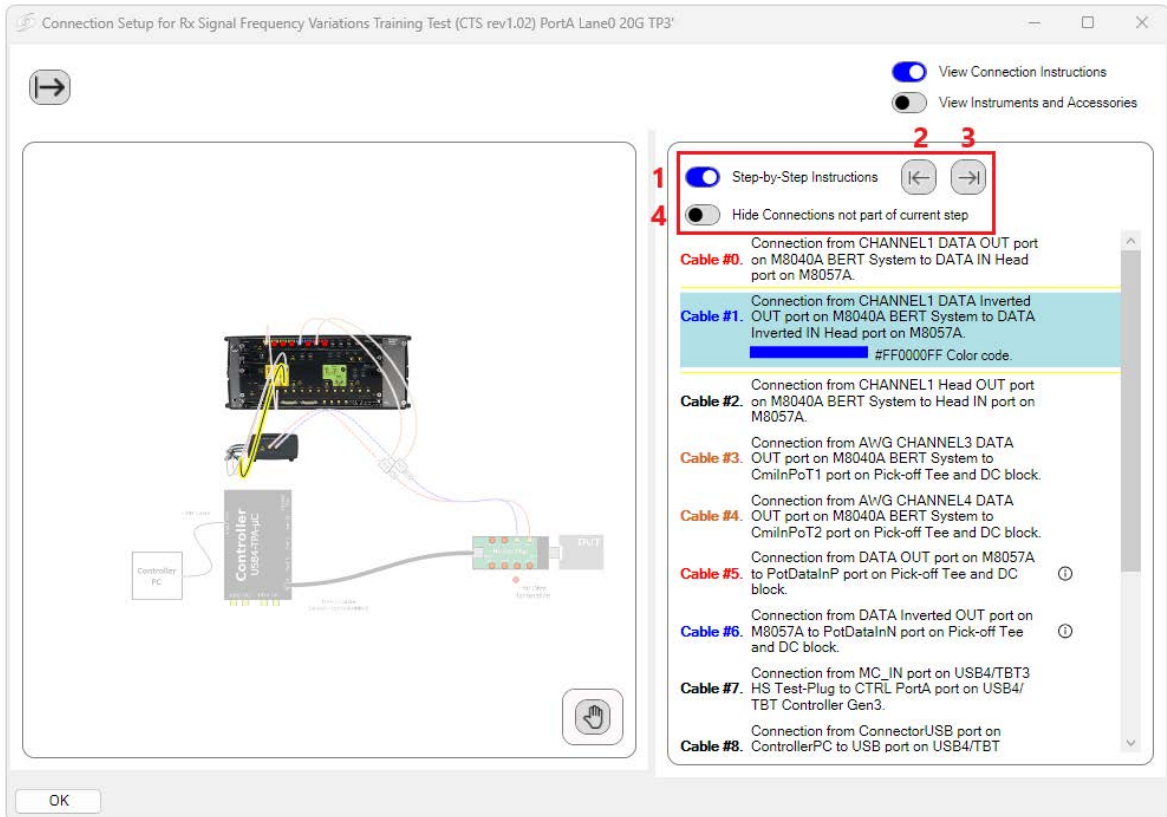

Figure 27 Connection diagram dialog – with Connection Instructions pane (example for USB4)
- 2 **Connection Instructions:** Toggle to ‘on’ to view the connection instructions and further information (Figure 27).
Toggling “Step-by-Step Instructions” within the Connection Instructions pane leads to a view such as in Figure 27.